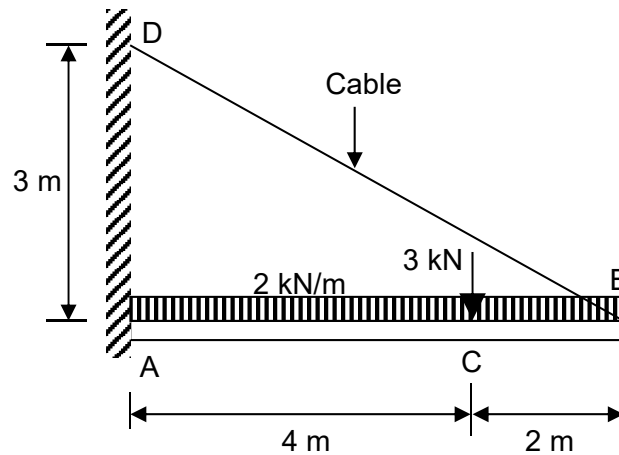

Figure 3/Rajah 3
- [b] If the roller support is replaced by a steel cable as shown in **Figure 3**, determine the percentage change in magnitude of vertical reaction force at A. The modulus of elasticity and diameter of the steel cable are 150 GN/m² and 10 mm, respectively.